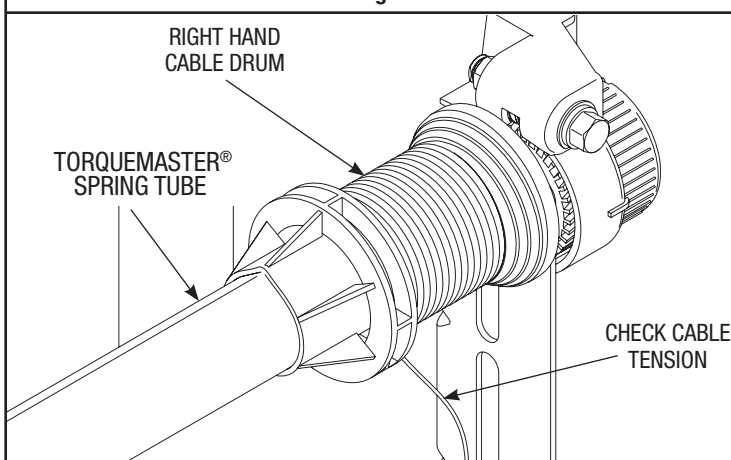

Fig. 3
Step 3: Verify that spring tension has been released by pulling the counterbalance cable on the right hand cable drum away from the header (Fig. 3). If spring tension has been released, the cable will be loose. In addition, the TorqueMaster®